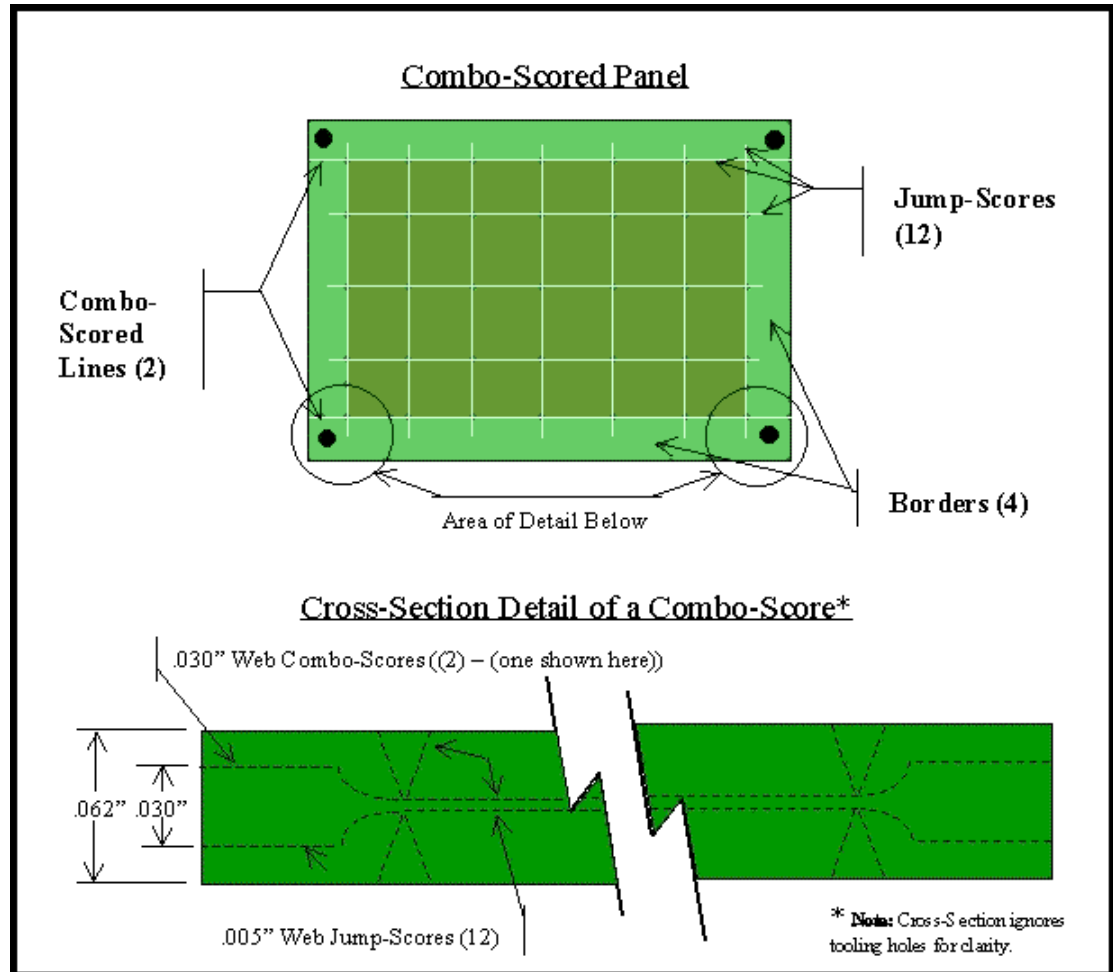

Figure 7. Advanced Jump-Scoring.
- Advanced Jump-Scoring** provides both ease of breakout and rigidity of the panel in both axes, by adding ONE simple step to the Standard Jump-Scoring process. Instead of simply scoring all the way through the borders on the two outer lines in one axis (to allow a start point for depaneling), those two lines will be "Combo-Scored". See Fig. 7. Combo-Scored refers to the process of using a standard thick-web "full score" for the each of the two outer lines, and then making a second jump-score pass, re-scoring each outer line at a deeper depth (thinner web). This technique allows for a starting point for depaneling (as above), but retains most of the border and therefore panel rigidity in that axis. Also, more importantly, using Combo-Scoring on the two outer lines in an axis also allows you to jump score even deeper than normal on all lines, providing for even easier and more efficient depaneling verses Standard Jump-Scoring alone. Webs can be jump-scored as thin as 0.004" to 0.006" for safe and easy depaneling, while maintaining a rigid assembly panel. The best of both worlds!!!